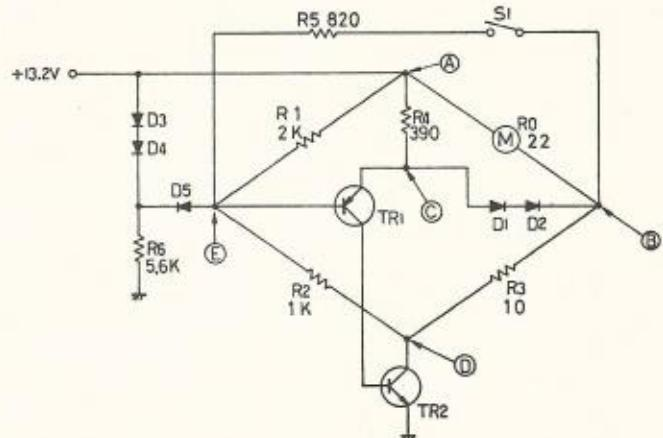

Fig. 9
## ELECTRONIC SPEED CONTROL (Figure 9 and 10)
## FAST FORWARD (Figure 9 and 10)
## START CIRCUIT (Figure 9 and 10)
The start circuit comprises D3, D4, D5 and R6 in figure 9 and without which TR2 will remain cut off when the power is applied. This circuit holds the voltage at (E) lower than (A), which causes TR1 and TR2 to conduct.